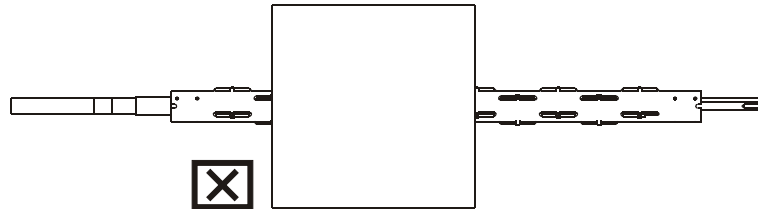
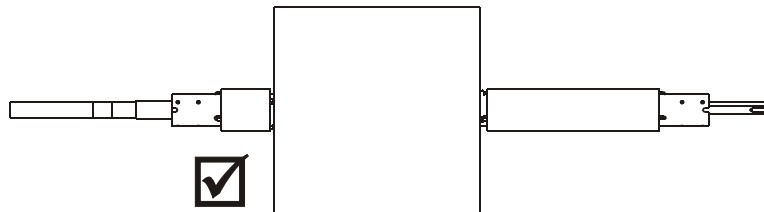

Figure 1: One Reel Mounted on the Shaft. Do not keep the Gripping Area open.
Figure 2: One Reel Mounted on the Shaft, sides cover with Dummy Core to avoid damage to Rubber Bladder.
3. Air Shafts are designed for a particular web width or reel width. When the total width is not used as shown in Figure 1, do not operate the shaft with open lugs. Life of the rubber tube will deteriorate. In such cases, use the dummy core on the sides to cover remaining lugs as shown in Figure 2.